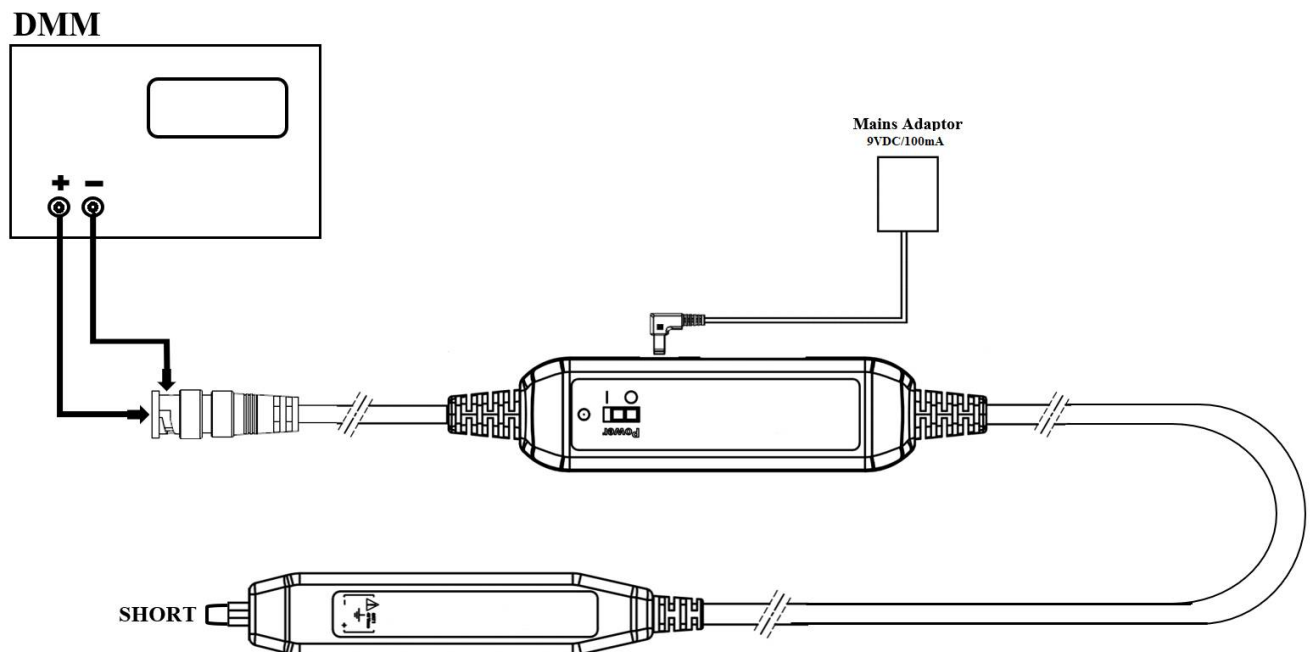

Fig. 5
- C-1. Connect the probe as shown in Fig. 5.